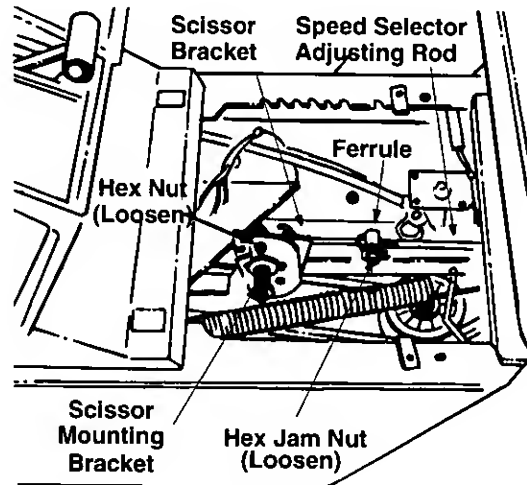

Figure 15
3. Loosen the hex jam nut on the speed selector adjusting rod. See Figure 15.
4. Loosen the hex nut on the scissor mounting bracket. See Figure 15.